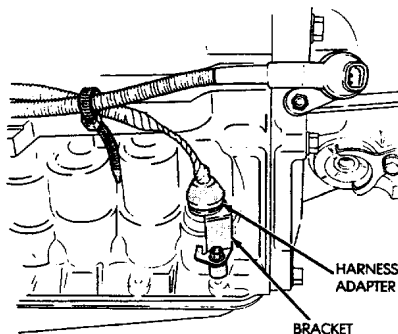

Fig. 10 Removing Bracket And Harness
(15) Remove harness bracket bolt and remove harness and bracket (Fig. 10).